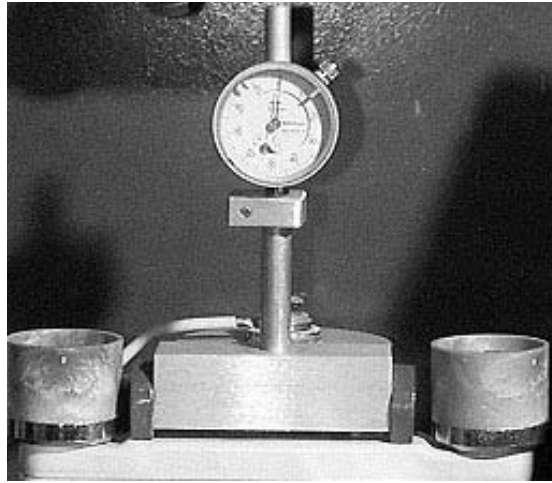

Figure 9-5 Placing the Deflection Gauge
- 4 Place the deflection gauge in the middle of the clamp (see *Figure 9-5*) and reset the dial to zero.